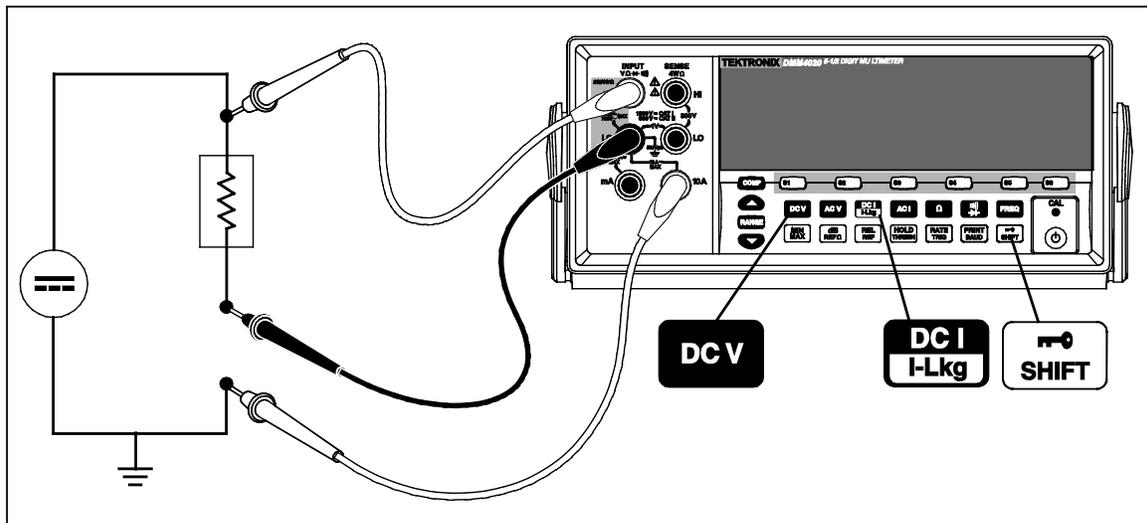

Figure A-2. DC Voltage and DC Current Measurement on Input Signal
4. Connect the leads to the test circuit as shown in Figure A-2 and read the measurements on the display. Although current will be displayed as negative, it is in fact positive when interpreted according to current flow convention.